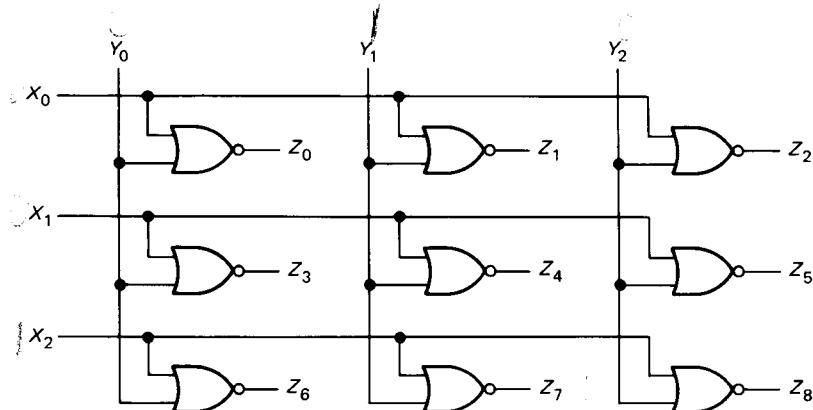

Fig. 3-26 NOR-gate crossbar switch.
- 3-3. Figure 3-26 shows a NOR-gate crossbar switch. If all X and Y inputs are high, which of the Z outputs is high? If all inputs are high except X_1 and Y_2 , which Z output is high? If X_2 and Y_0 are low and all other inputs are high, which Z output is high?
- 3-4. In Fig. 3-26, you want Z_7 to be 1 and all other Z outputs to be 0. What values must the X and Y inputs have?
- 3-17.** Suppose the NOR gates of Fig. 3-26 are replaced by NAND gates. Then you've got a NAND-gate crossbar switch.